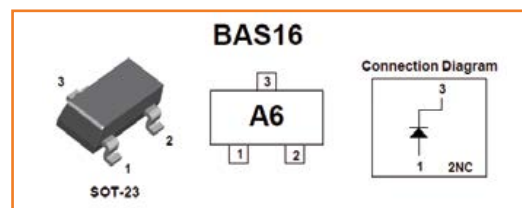

Figure 2. The transistors and diodes in SOT packages (Small Outline Transistor) – Fairchild document.
**Examples:** SOT-23 (Small Outline Transistor) packages are often used for diodes or transistors, e.g. the BAS16 diode (**Figure 2**). For microcontrollers and other integrated circuits, some packages are easier to use than others; you can still just about handle a TQFP (Thin Quad Flat Package) with 64 pins on 0.8 mm pitch, but it becomes a real headache when you get down to a TQFP with 100 pins and only 0.5 mm pitch.